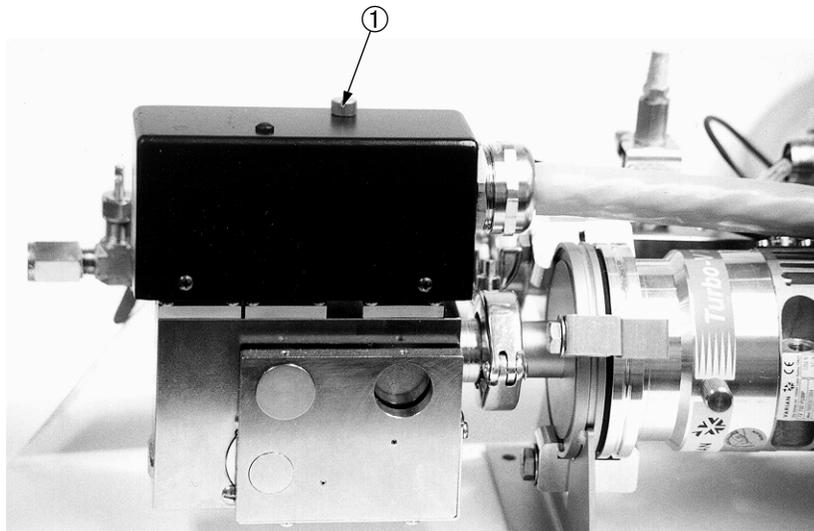

Figure 5-1 Removing the Spec Tube Block Connector
1. Loosen the hold-down screw ① to remove the spec tube block connector from the spectrometer assembly (Figure 5-1).